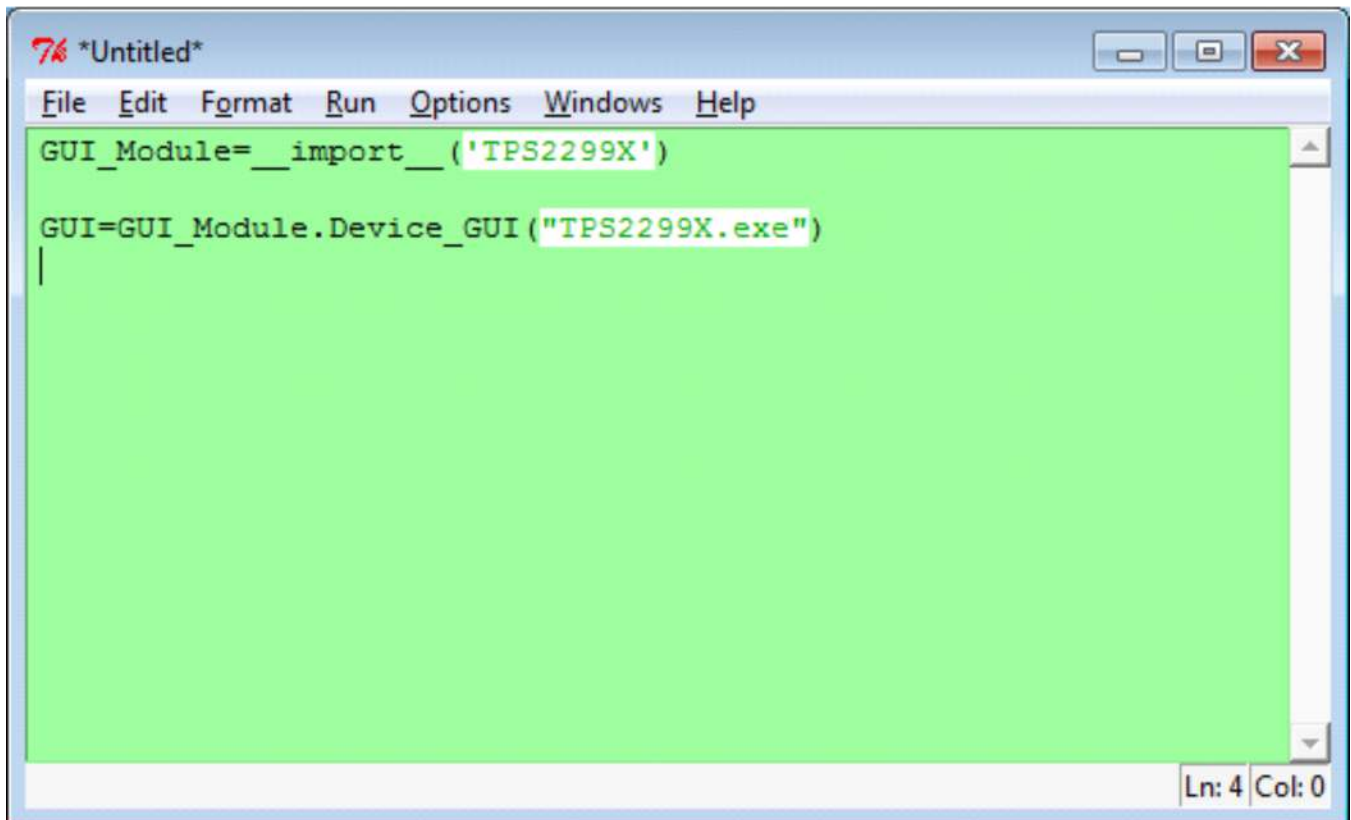
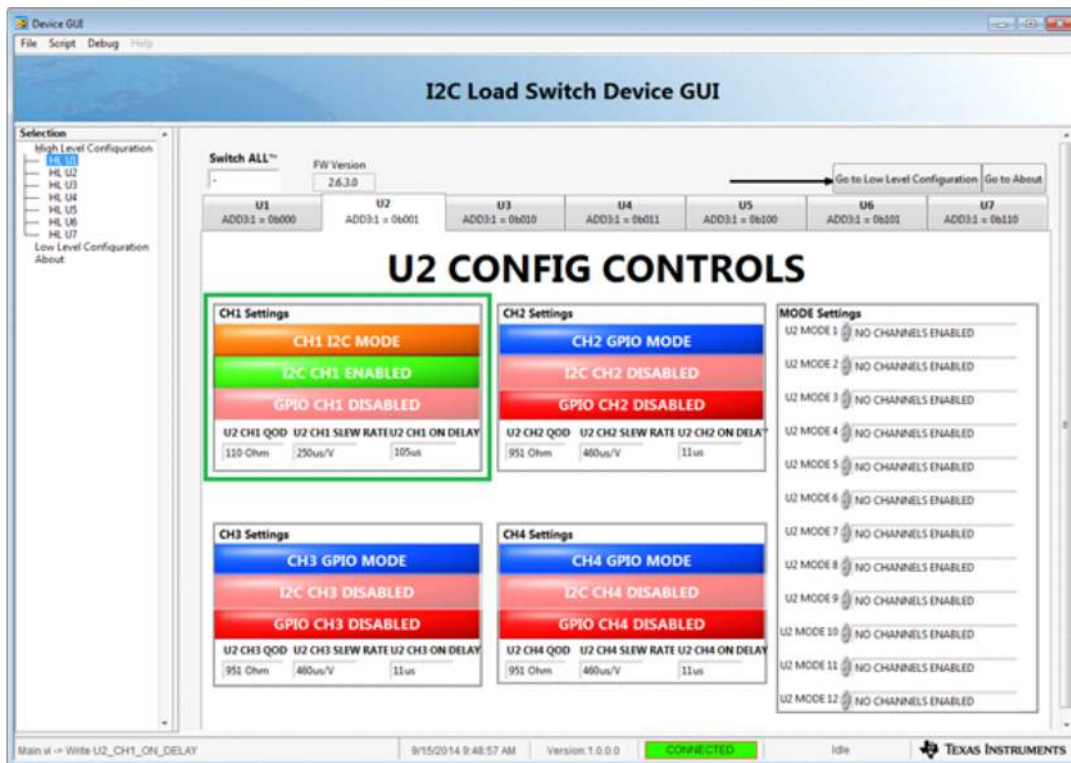

Figure 15. Python Script Window Begins Flashing Green
Figure 16. GUI Screen after Clicking U2 CH1 Controls
- (E) The Python script should begin flashing green and additional text should show up in the window, see Figure 15.
- (F) You are now ready to record the actions in the I2C Load Switch GUI. Click on the U2 tab to select device U2. Click on CH1 GPIO Mode it should transition to CH1 I2C MODE, Click on I2C CH1 Disable and it should transition to I2C CH1 Enabled and turn Green, Click on U2 CH1 QOD and select 110 Ω, Click on U2 CH1 Slew Rate and select 250 μs/V, and Click on U2 CH1 ON Delay and select 105 μs.
- (G) Your GUI screen should look like Figure 16 after you have finished clicking the controls.